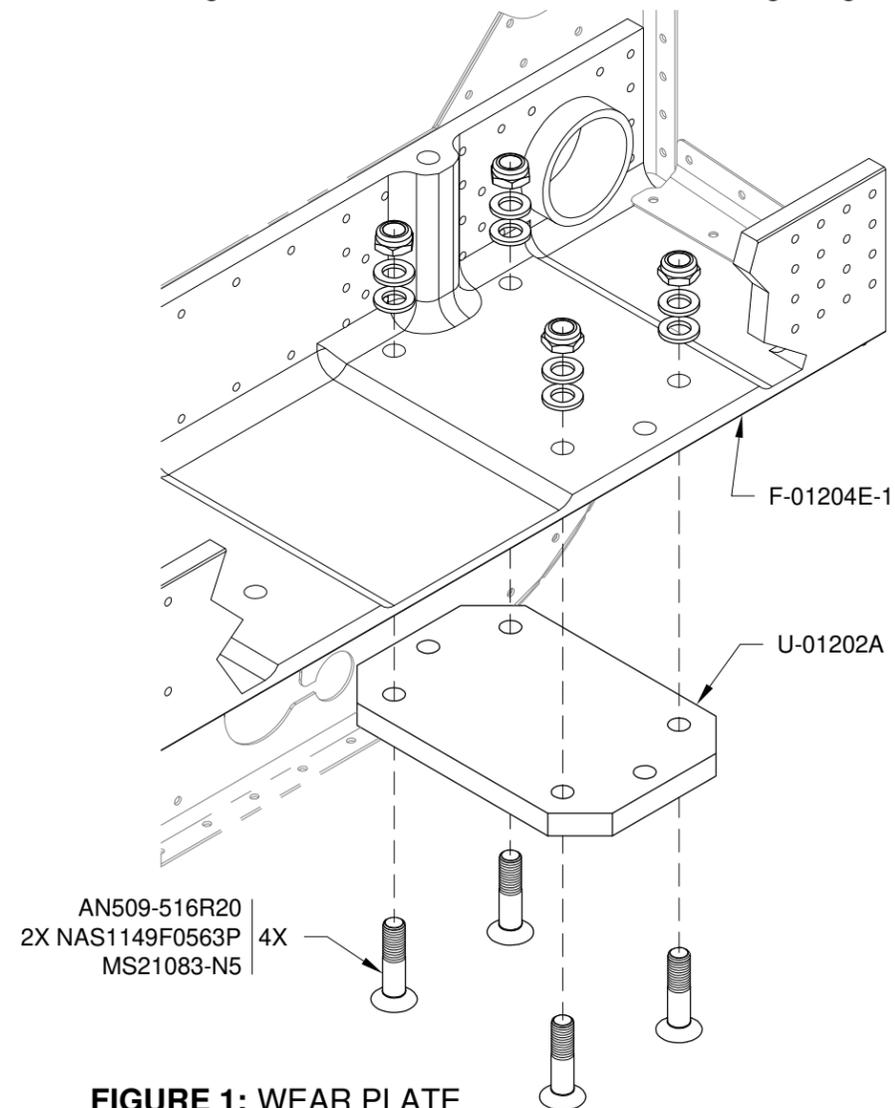

FIGURE 1: WEAR PLATE ATTACH
Step 3: Attach the U-01202A to the F-01204E-1 as shown in Figure 1. Insert the AN5 bolts shown in Figure 2 before torquing the nuts on the screws.